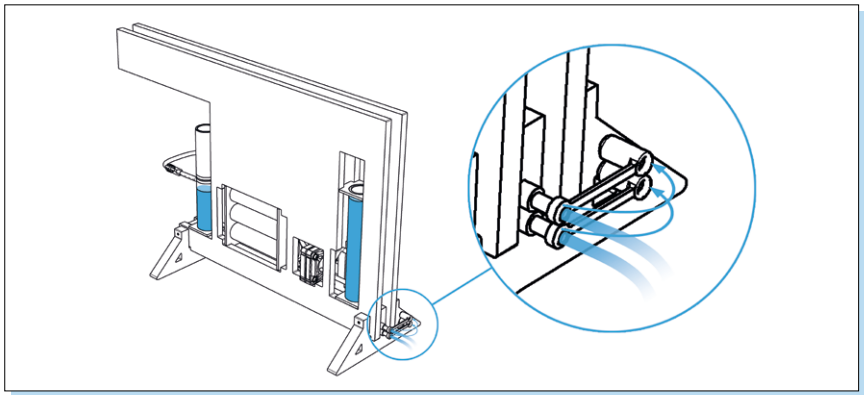

Fig. 8: Draining the hydrogen storage tank and the water reservoir
- Drain the hydrogen storage tank and the water reservoir, as shown in figure 8. The water must be disposed of correctly (e.g. drain).